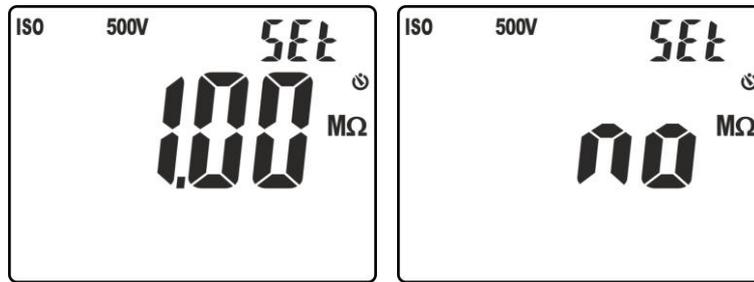

Fig. 16: Setting the limit threshold for insulation measurement
5. Press keys ∇/OFF or $\blacktriangle/\text{ZERO}$ to select the value among the options: **0.10M Ω** , **0.230M Ω** , **0.50M Ω** , **1.00M Ω** , **100M Ω** , **no**. Option “no” indicates that no threshold was set (see Fig. 16).
4. Press and hold key **VTEST/LIM** (>2s) to set the **minimum** limit threshold for measurement. The symbol “Set” flashes on the display. Press keys **▼/⚡** or **▲/ZERO** to select the value among the options: **0.10MΩ, 0.230MΩ, 0.50MΩ, 1.00MΩ, 100MΩ, no**. Option “no” indicates that no threshold was set (see Fig. 16).
4. Press and hold key **VTEST/LIM** (>2s) to set the **minimum** limit threshold for measurement. The symbol "Set" flashes on the display. Press keys **▼/⌘** or **▲/ZERO** to select the value among the options: **0.10MΩ, 0.230MΩ, 0.50MΩ, 1.00MΩ, 100MΩ, no**. Option "no" indicates that no threshold was set (see Fig. 16).